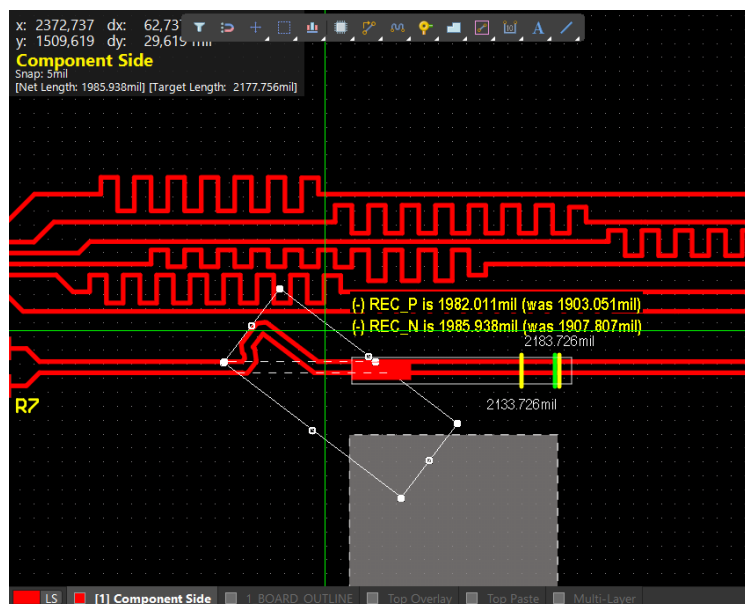

Figure 10. Length Tuning Accordion with a rotation information
47. To rotate the accordion, press and hold **Ctrl**, and rotate the box. If the box is too small to create a length tuning pattern, the Accordion disappears. In such case, try increasing height and length of the box, Figure 10.